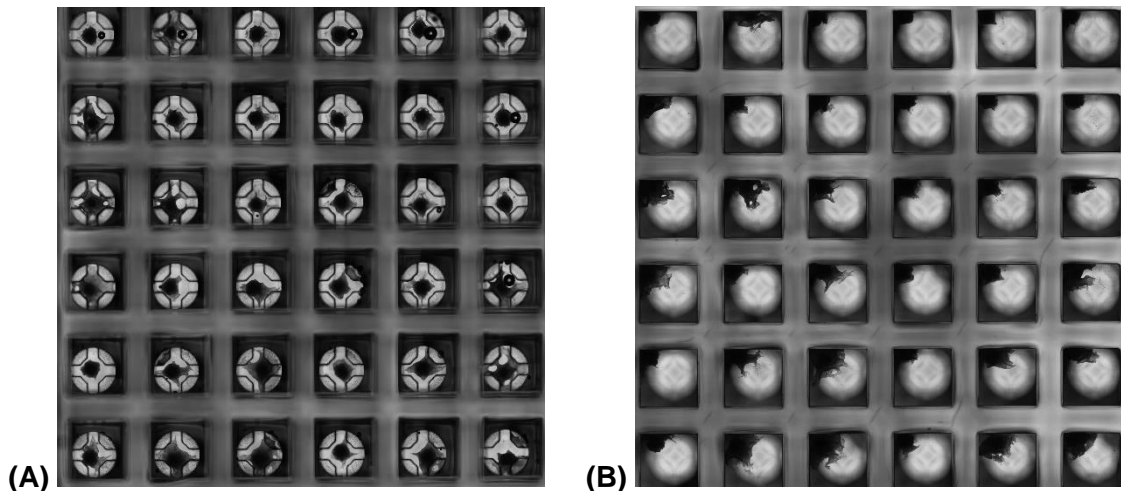

Figure 2. Stacked images of **(A)** organoids on the pillar plate and **(B)** organoids detached from the pillar plate in a 384DeepWellPlate by centrifugation.
8. Check the 384DeepWellPlate under the microscope for the number of organoids detached from the pillar plate (**Fig. 2**).